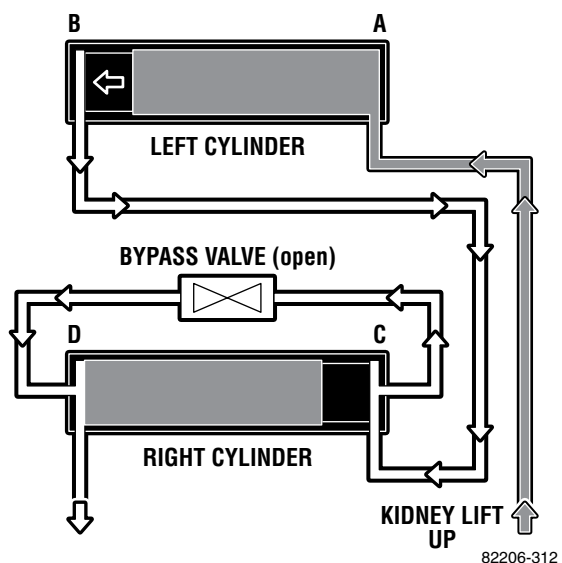

Figure 3-12.
3. Open the bypass valve by loosening the screw in the bottom of the valve and activate KIDNEY UP. Hydraulic fluid fills cavity "A" and pushes the piston into cavity "B". The open valve allows a path for air to escape from cavity "B" without affecting the piston in "C". See figure 3-12.